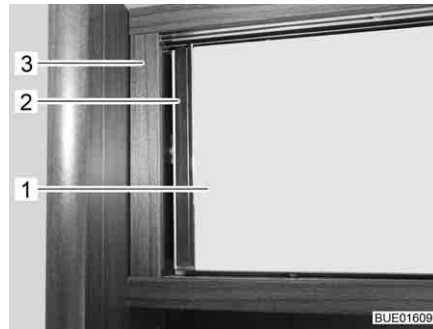

Fig. 72 Furniture flap with pressurised release
- Press the furniture flap (Fig. 72,1) with the handle (Fig. 72,2) against the cabinet body (Fig. 72,3). The furniture flap is unlocked.